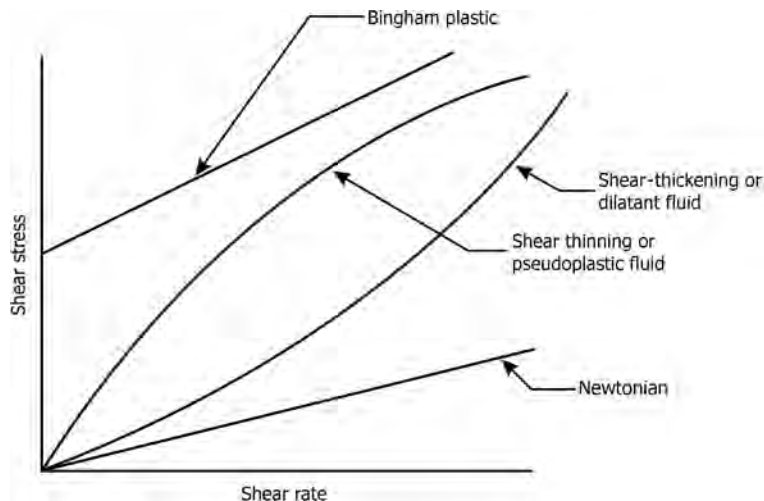

FIGURE 1.1 Shear rate versus shear stress diagrams for Newtonian and non-Newtonian fluids.
- The slope of the shear stress versus shear rate curve will not be constant as we change the shear rate. When the viscosity decreases with increasing shear rate, the fluid is called *shear thinning*. However, the rate of increase is less than linear as shown in Figure 1.1.
- *Bingham plastic materials* are the simplest of the yield stress materials. Highly concentrated suspensions of fine solid particles frequently exhibit Bingham plastic behavior. Slope of the line shown in Figure 1.1 for a Bingham plastic is called *infinite shear viscosity*.
- Figure 1.1 illustrates shear rate–shear stress behavior of Newtonian and non-Newtonian fluids.